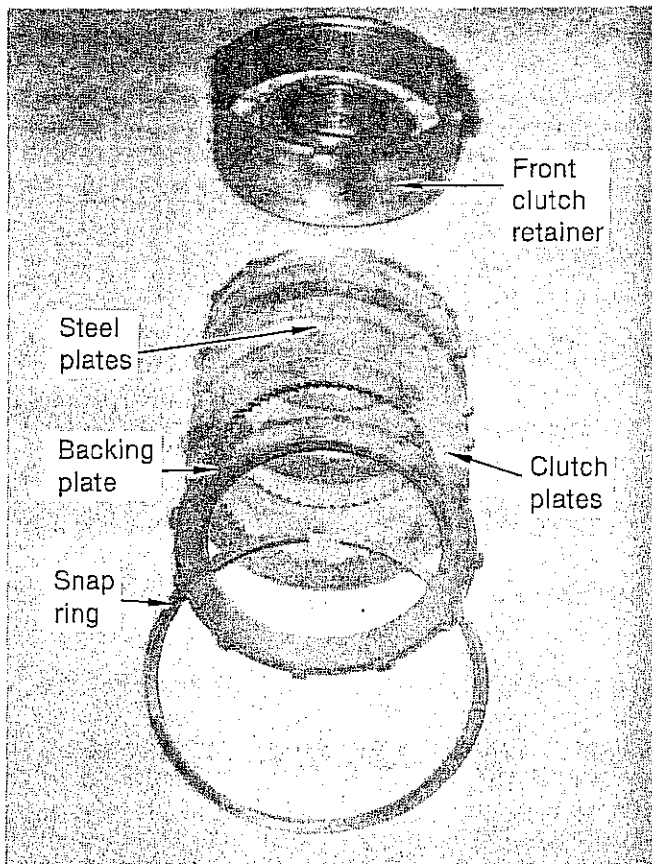

FIGURE 23
**STEP 1.** Lift the front clutch drum off the clutch pack assembly and set it in front of you with clutches facing up. There is a phenolic thrust washer between the front and rear clutch. Do not lose it. Remove the snap ring holding the backing plate in place with a screwdriver. Remove the thick backing plate and three to five front clutch plates and steel plates (See Fig. 23) Discard the clutch plates and save the steel plates.